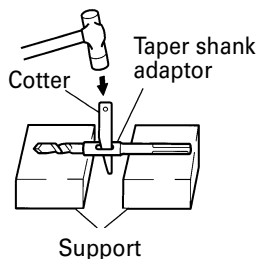

Fig. 10
- (2) Turn the power on and drill a base hole.
- (3) After cleaning out dust with a syringe, attach the plug to the anchor tip and drive in the anchor with a manual hammer.
- (4) To remove the drill bit with taper shank, insert a cotter into the slot of the taper shank adaptor, place supports under the Rotary Hammer and tap the cotter with a manual hammer. (Fig. 10)